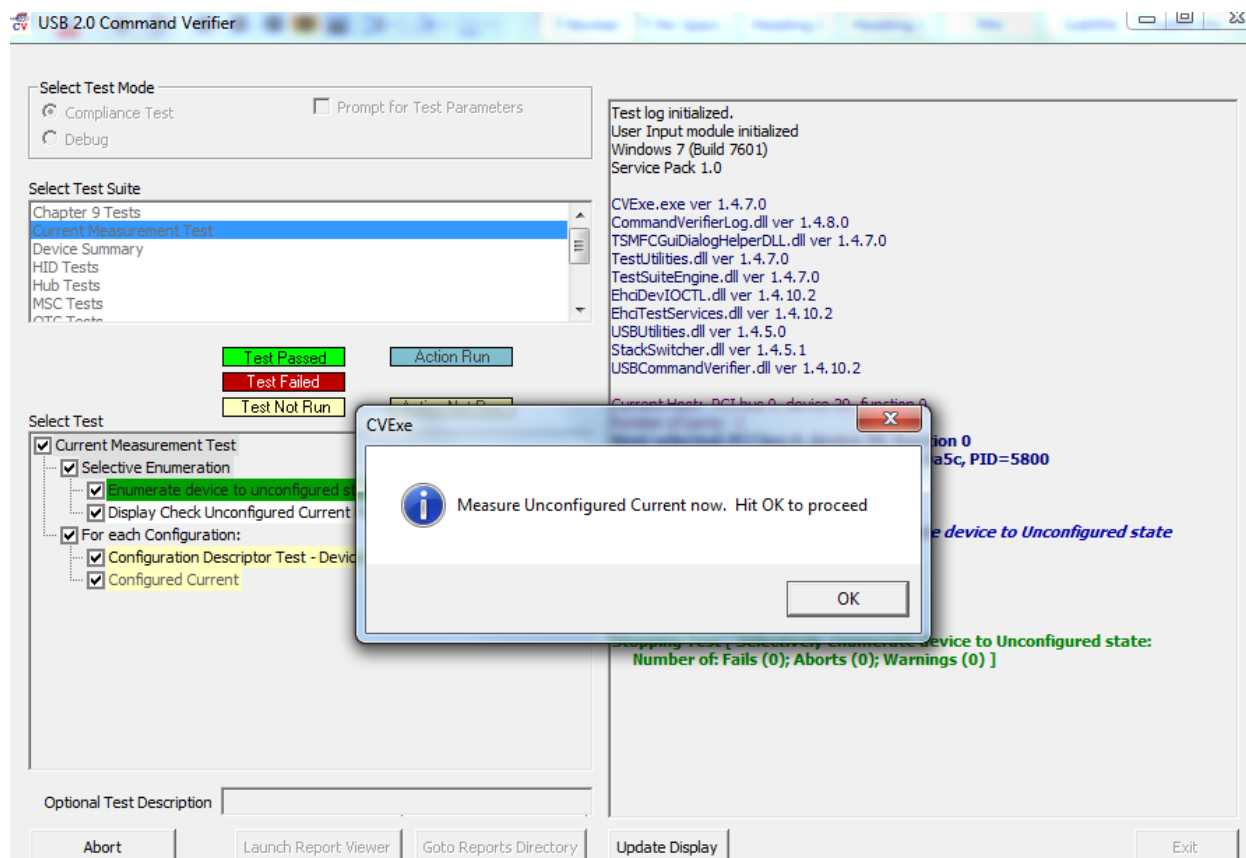

Figure 91. USB20CV Unconfigured Current Measurement Test
5. A pop-out dialog will ask you to measure the **unconfigured current**, as shown in Figure 91. After recording the maximum current value, click on **Ok**.